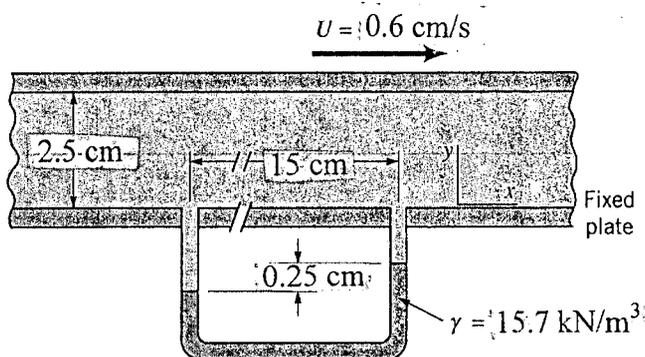

Figure 3 (for Q3)
3. A viscous fluid (specific weight,  $\rho g = 1.26 \text{ kN/m}^3$ ; viscosity =  $1.4 \text{ N.s/m}^2$ ) is contained between two infinite parallel plates, as shown in figure 3. The fluid moves between the plates under the action of a pressure gradient, and the upper plate moves with a velocity  $U$  while the bottom plate is fixed. A U-tube